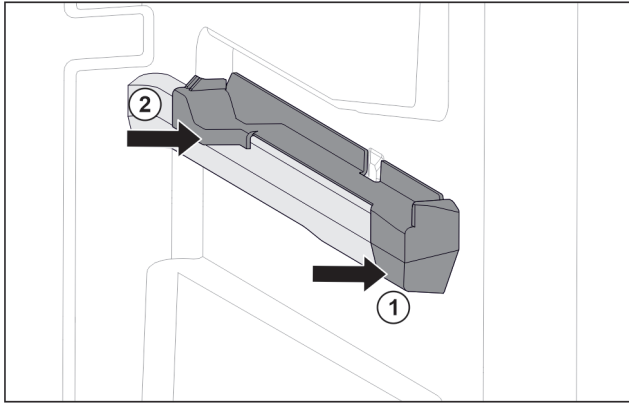

Fig. 98 Attachment on the right moulded rib
- ▶ Position attachment on moulded rib at the front. Fig. 98 (1)
- ▶ Press on attachment at the back. Fig. 98 (2)